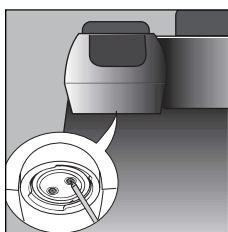

fig. 20
- using a screwdriver, unscrew the two screws that hold the outlet of the espresso boiler (fig. 20);